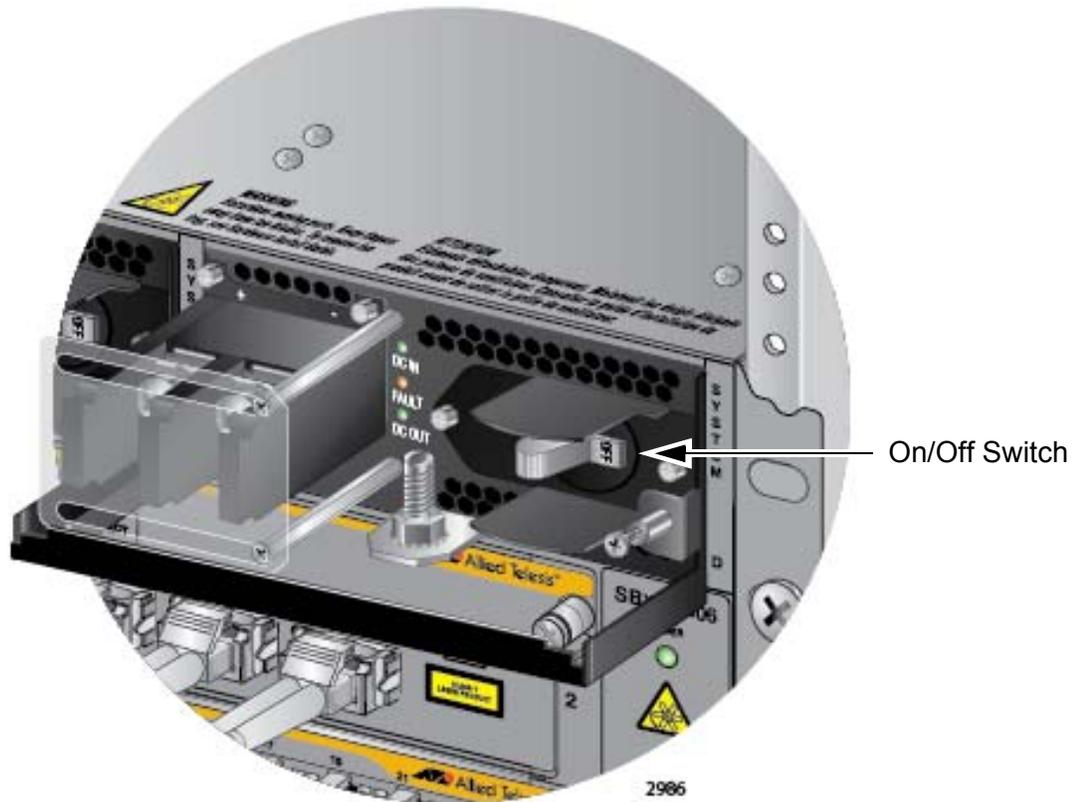

Figure 115. On/Off Switch on the AT-SBxPWRSYS1 DC Power Supply
3. Verify that the On/Off switch on the AT-SBxPWRSYS1 DC Power Supply is in the Off position. Refer to Figure 115 on page 160.
13. Turn the On/Off switch on the power supply to the On position. See Figure 115 on page 160.
2. Verify that the On/Off switch on the AT-SBxPWRSYS1 DC Power Supply is in the Off position. Refer to Figure 115 on page 160.
12. Turn the On/Off switch on the power supply to the On position. See Figure 115 on page 160.
11. Turn the On/Off switch on the power supply to the On position. See Figure 115 on page 160.